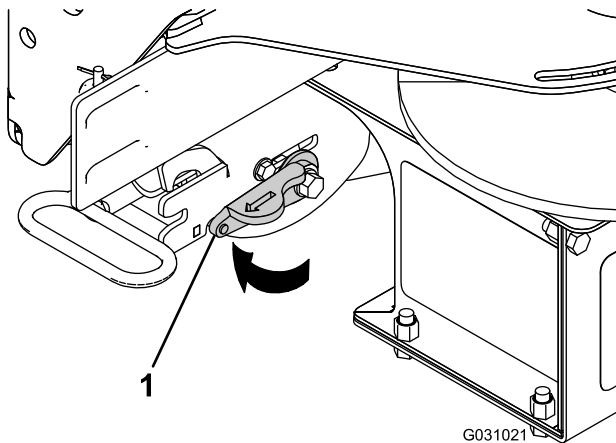

Figure 20
5. Rotate the locking lever on the RT3 attachment to the UNLOCK position (Figure 20).